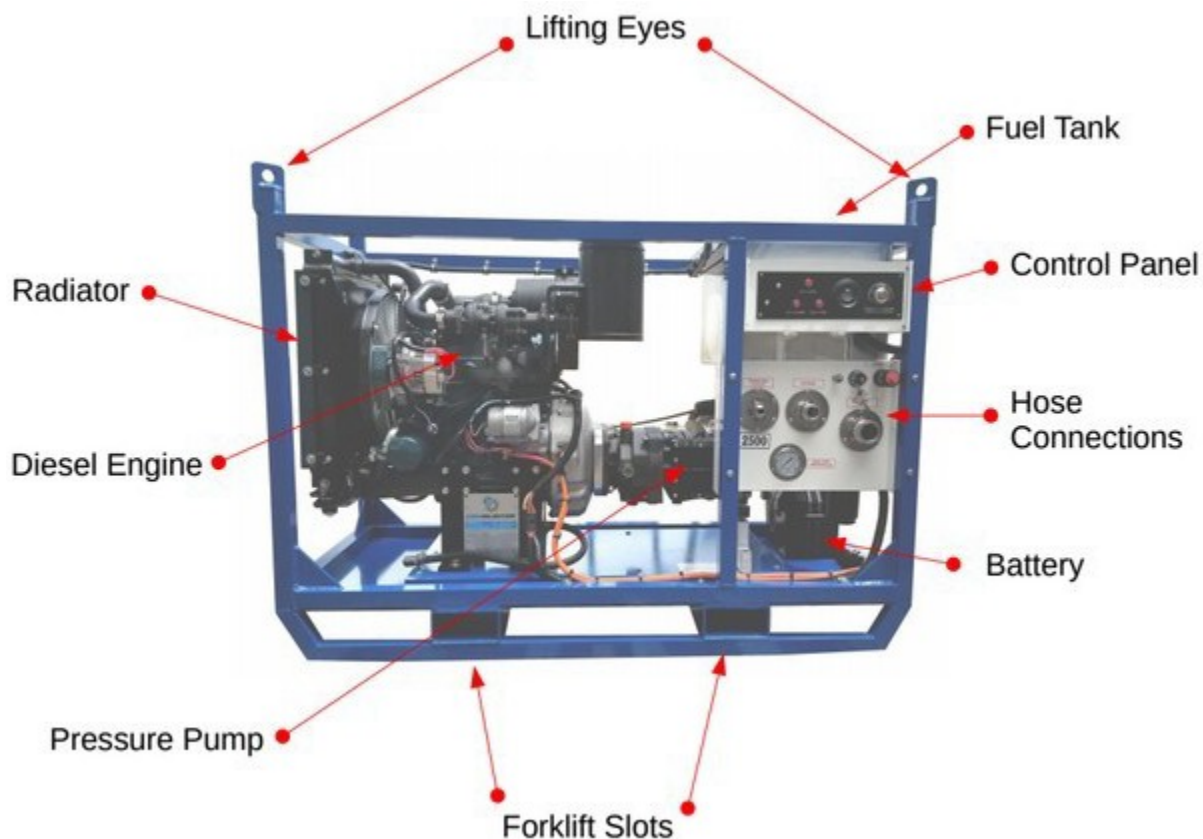

Figure 2.2 – CaviBlaster 1625-D General Features
6. Connect the bypass hose (See **Figure 2.2**).
7. Connect the pressure hose (See **Figure 2.2**).
1. Push IN the Emergency Stop button located on the front control panel (See **Figure 2.2**).
The feed water inlet connection is located on the front control panel of the CaviBlaster 1625-D (see **Figure 2.2**). Two water supply conditions are acceptable for the CaviBlaster Power Unit.
4. Connect the electrical plug on the feed pump power cable to the matching receptacle on the control panel (See **Figure 2.2**).
9. Apply appropriate hearing protection prior to starting engine. Insert the key into the ignition switch on the control panel (See **Figure 2.2**). Turn the key clockwise one position to heat the glow plugs. Once the two red lights to the left of the ignition switch are "ON", turn the key farther clockwise to start the engine.